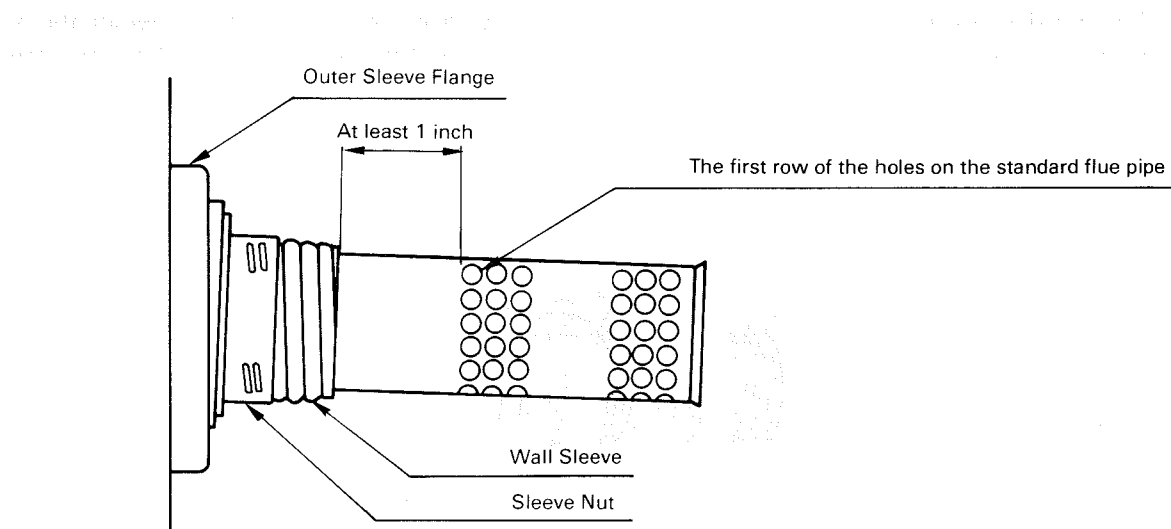

Fig 10
- b. From outside, leave at least 1 inch distance between the edge of the wall sleeve and the first row of holes on the standard flue pipe (See Fig. 10).